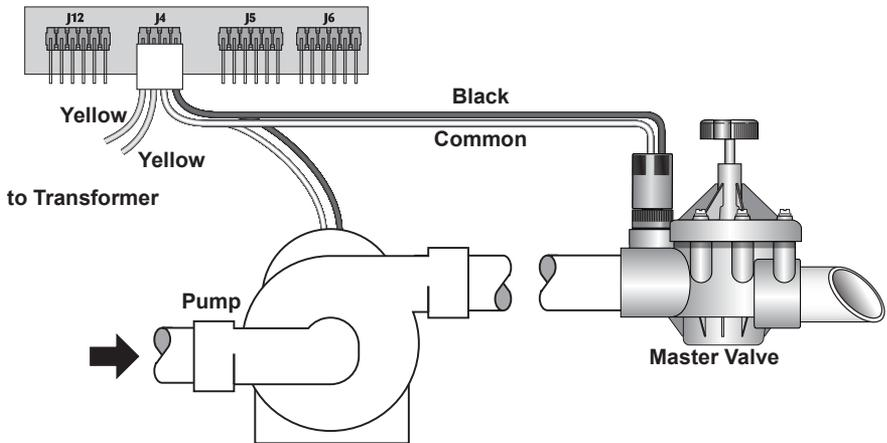

Figure 6 – Master Valve and Pump Electrical Connections
**EXAMPLE:** You are using a Master Valve and Pump; you have configured the system to use the NO STACK option. This configuration would allow all four programs to run simultaneously, as depicted in Figure 6 – Master Valve and Pump Electrical Connections.
If you have a Master Valve which requires activation to open, and a Pump which is always needed when irrigating, connect BOTH the Master Valve solenoid and Pump starter to the MV and Master Valve common terminals as shown in Figure 6 – Master Valve and Pump Electrical Connections.